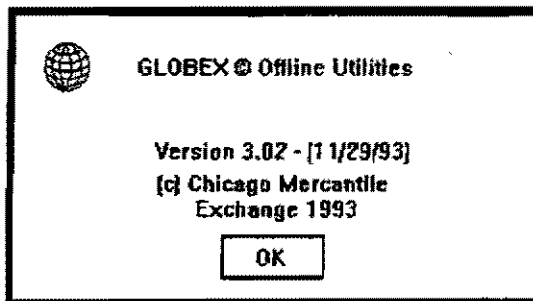

Figure 12.4 About Box
**Control Button** - Click on this button at the far left of the title bar to display a drop-down menu with one active item: **About Wintrade**. Click on **About Wintrade** to display information about the Offline Utilities software, as shown in Figure 12.4. Click on **OK** to close the dialog box.